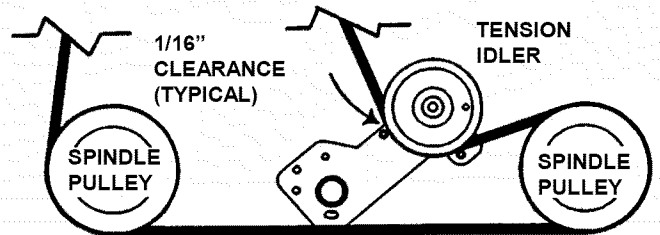

FIGURE 4.40
7. Adjust idler pulley belt guide if necessary to obtain 1/16" clearance between belt and belt guide. See Figure 4.40.